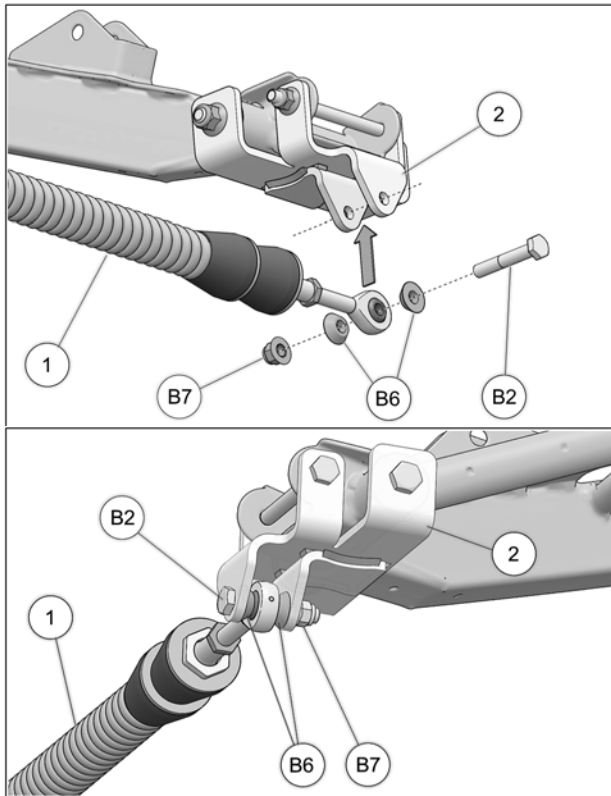

Fig. 9
9. Attach stabilizing rod (1) to anchor bracket (2), using 60mm-long M10 bolt (B2), conical spacer bushings (B6), and nut (B7). Torque to 70 N•m [52 lb•ft]. See Fig. 9